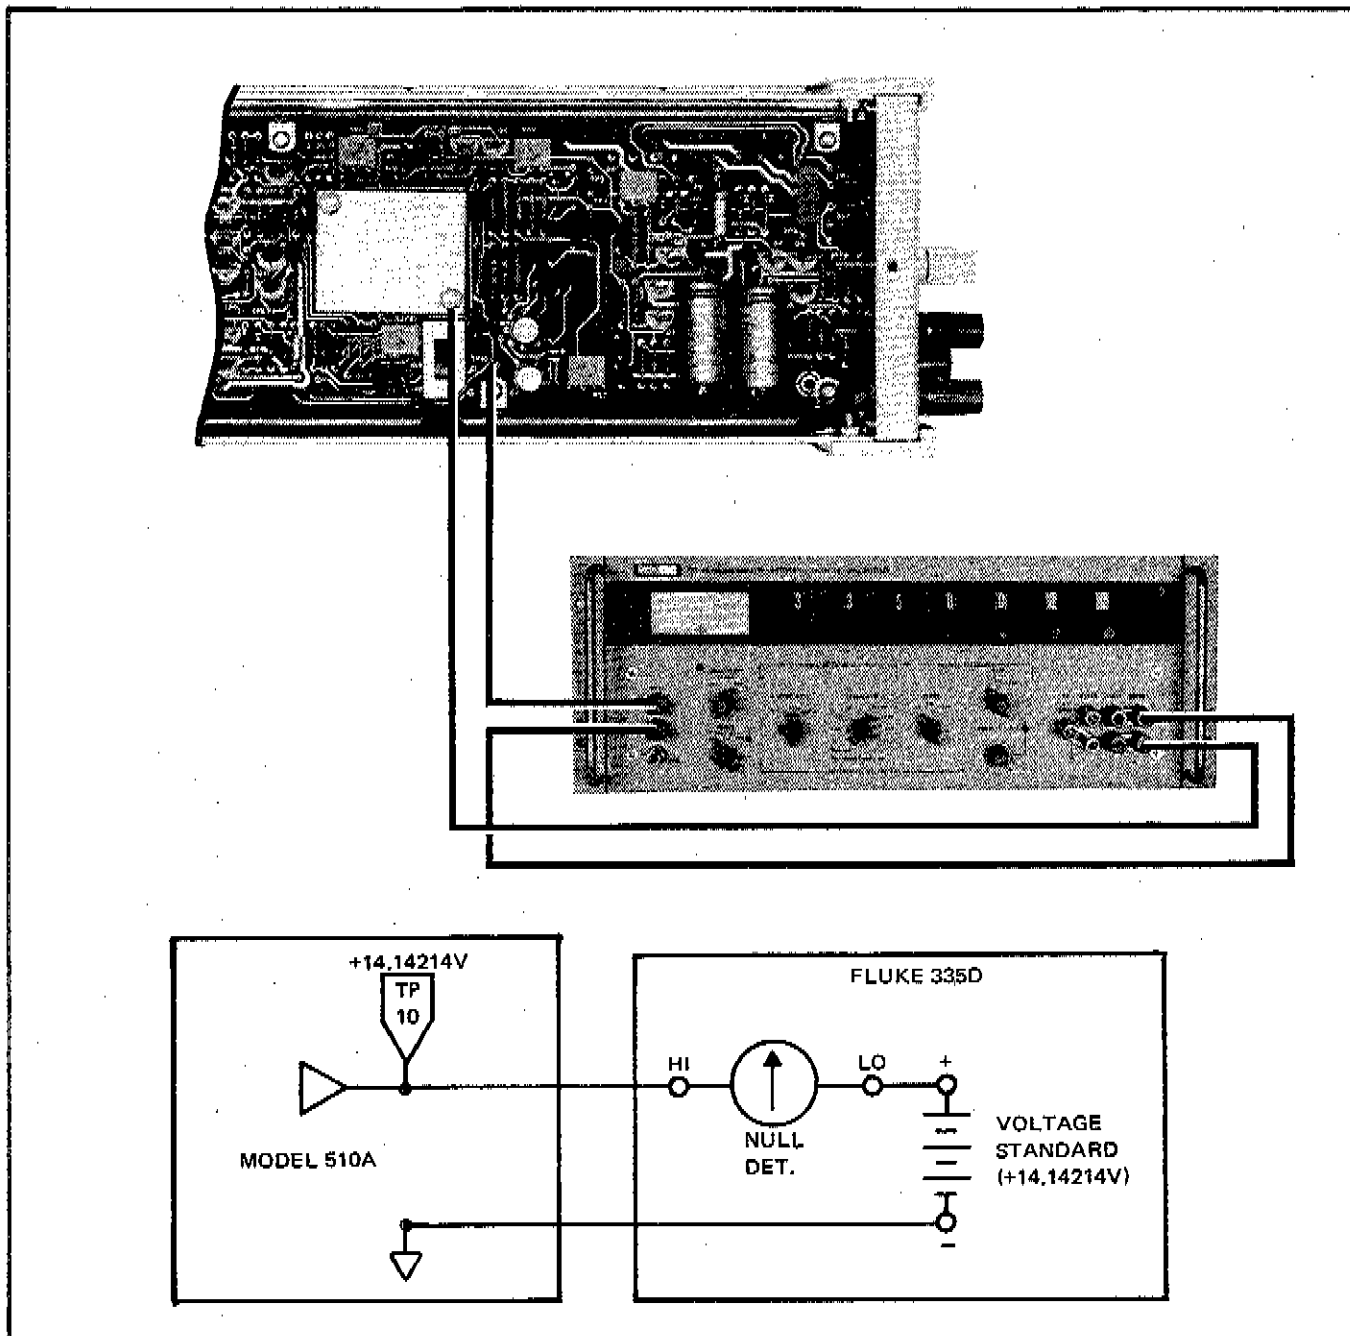

Figure 4-4. DC REFERENCE EQUIPMENT CONNECTIONS
- b. Make the equipment connections shown in Figure 4-4.